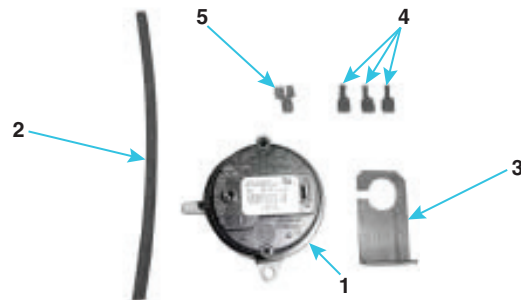

Figure 1. Replacement Pressure Switch Kit (Refer to Table 1)
- If a model (H)EEDU duct furnace manufactured *before* SEP 2003 requires a replacement pressure switch, this kit is designed to provide the hardware and instructions needed to install a functional replacement switch. Some components may not be used depending on when the heater was manufactured.
- Ensure that all components listed shown in **Figure 1** and listed in **Table 1** are available before beginning installation.